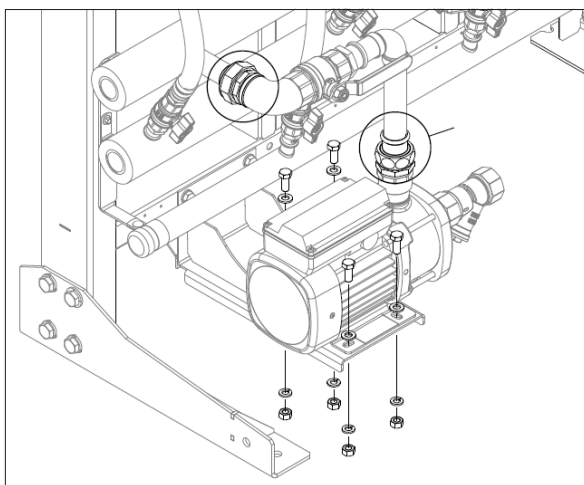
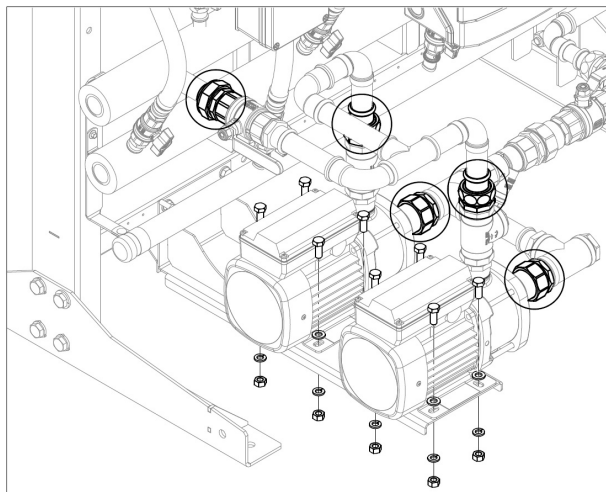

Figure 6a
Figure 6b
Disconnect the pump unions from the cold manifold at the points shown in **Figure 6a** or **Figure 6b** and unbolt the water and gas manifolds from the frame clip head brackets (Note relative positions for reassembly).
7. If required, remove the pump by first removing the wiring from the pump and unscrewing 4 x bolts holding it to the bracket. A restricted electrical licence (minimum) will be required if the pump is to be disconnected from the frame and later re-assembled. Refer to **Figure 6a** or **6b**.